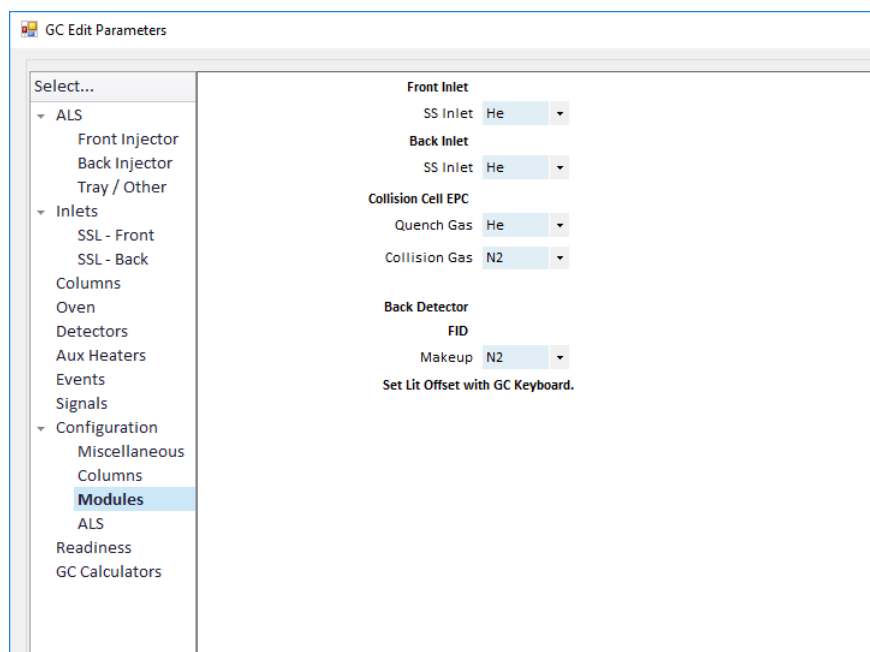

Figure 12. Configure the collision cell gas
- 2 From the Navigation pane, click **Configuration > Modules** to display the screen. (See **Figure 12.**)